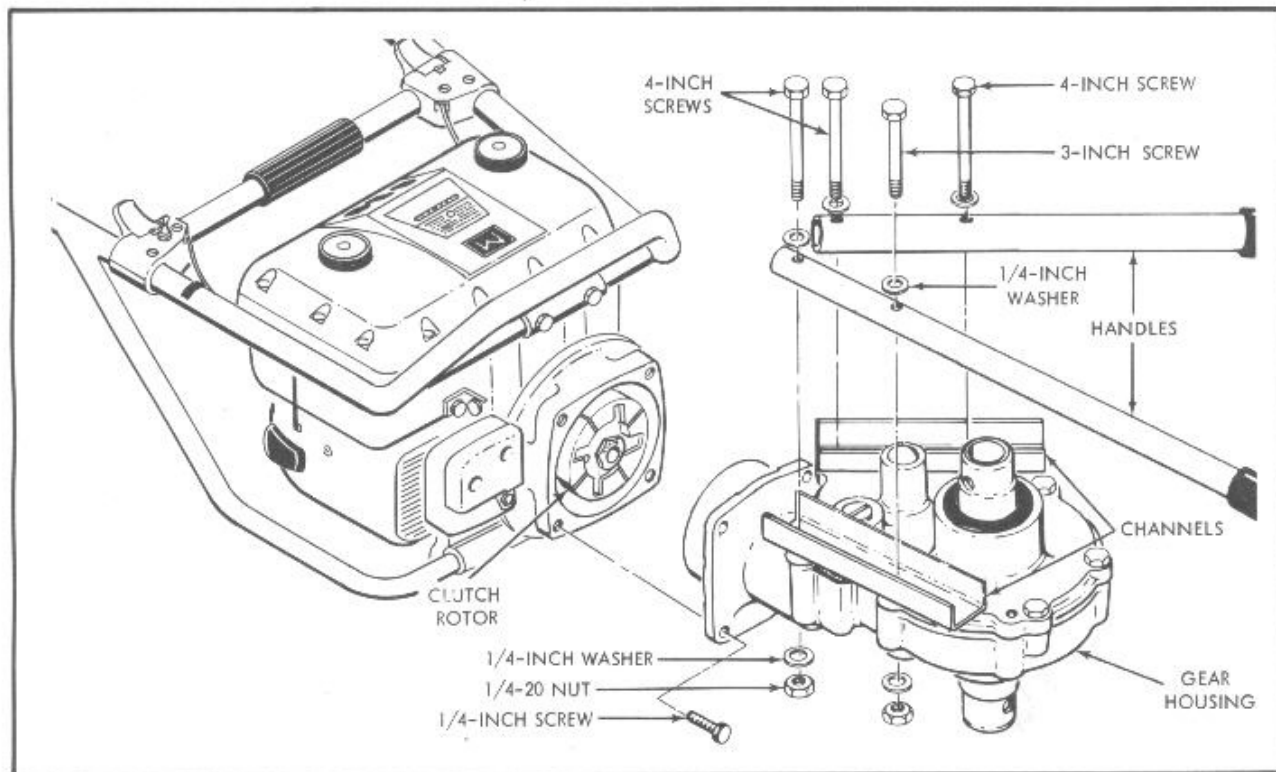

Figure 1. Install Gear Housing and Handles
1. Remove the channels from the gear housing cover. Turn them right side up and mount the handles in the channels on the cover using the screws, nuts and washers fastening the channels to the cover (figure 1).